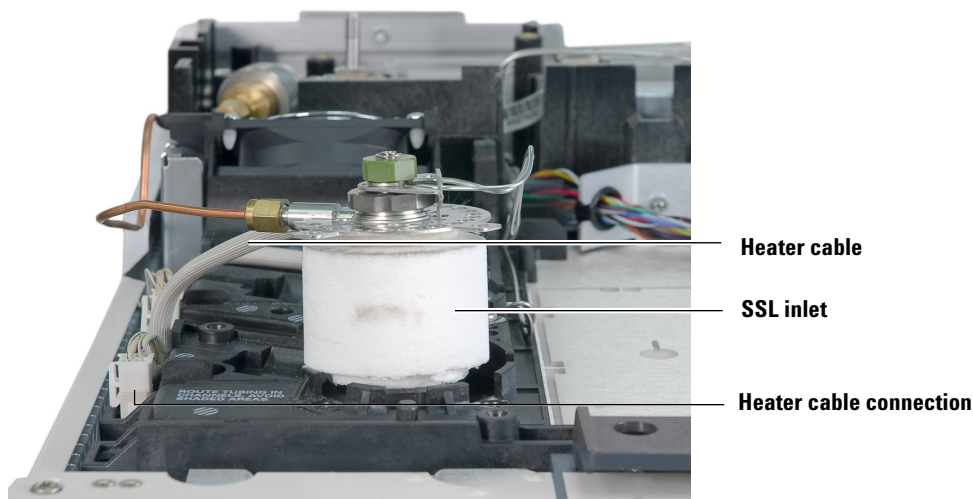

Figure 5 Inserting the SSL inlet
- 3 Place the inlet in its prepared location with its three screws aligned with the holes in the carrier top and its heater cable sitting in the trough in the inlet chassis. (See Figure 5.)